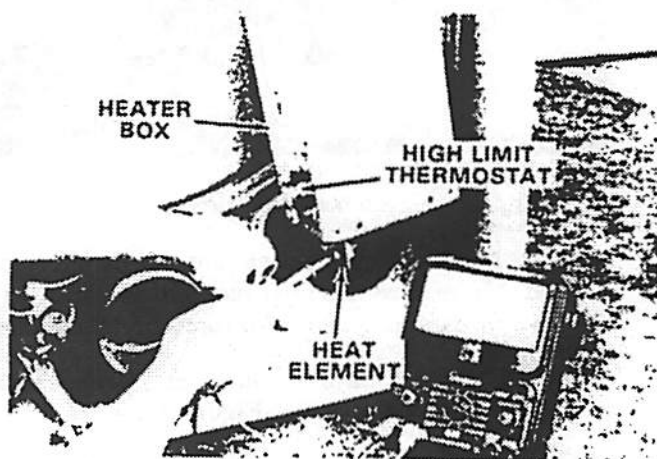

Fig. 9. Two-terminal heater element.
STEP 3 Touch one ohmmeter probe to one of the terminals (Figure 9).
STEP 4 Touch the other ohmmeter probe to the other terminals (Figure 9).
STEP 5 The ohmmeter should show between 5-50 ohms (Figure 9).